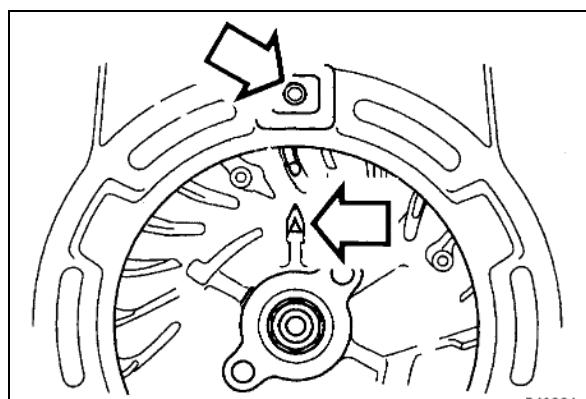

Fig. 47 □
- Align the alignment mark on the flywheel rib with the top bore in the fan cover (Fig. 47).